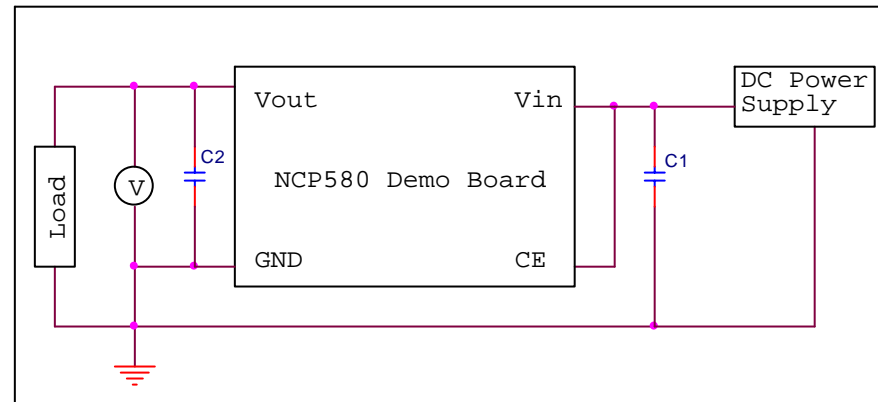

Figure 1: NCP580 Test Setup
- 1. Connect the demo board as shown in Figure 1.**